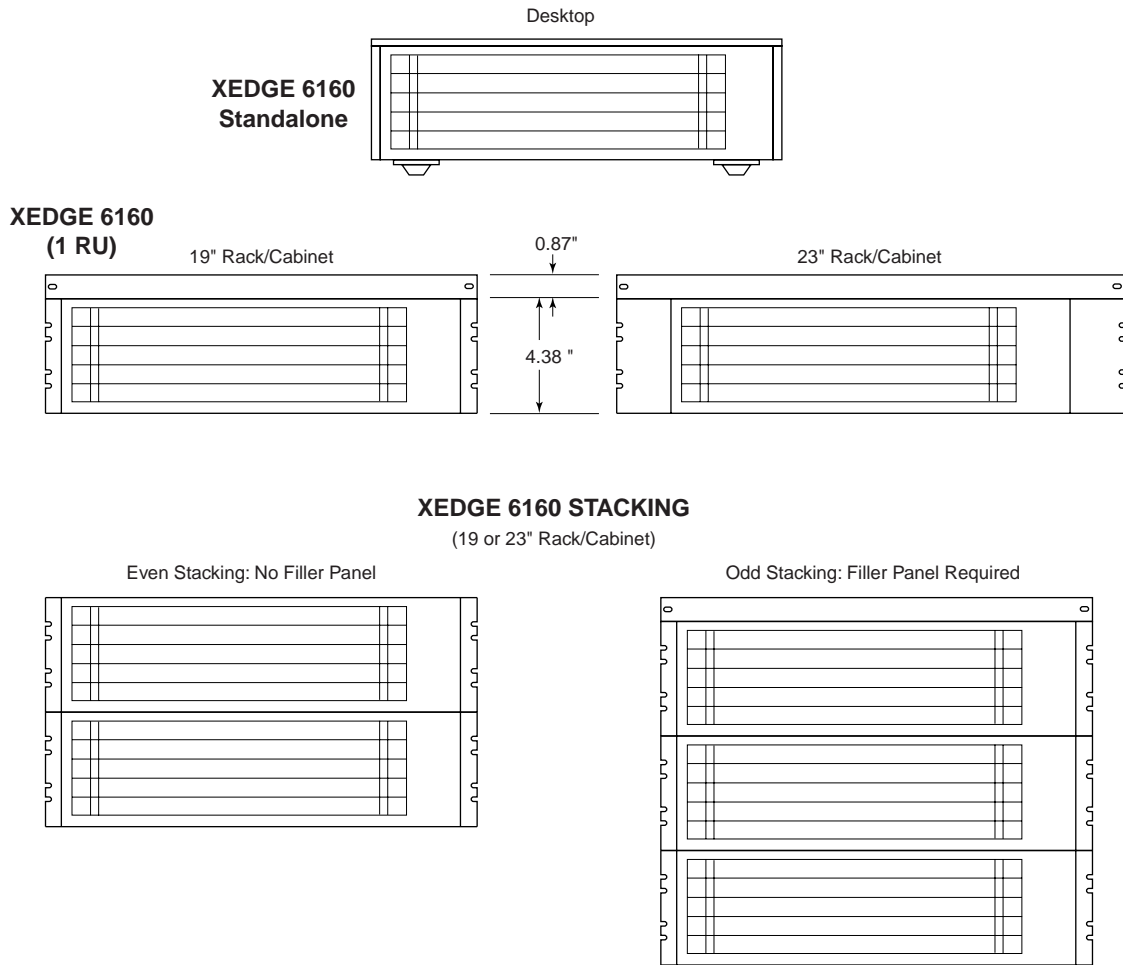

Figure 2-3 Xedge 6160 Chassis Mounting Options
4. When stacking an odd number of Xedge 6160 chassis in a rack/cabinet, you must add a filler panel, as shown in Figure 2-3.